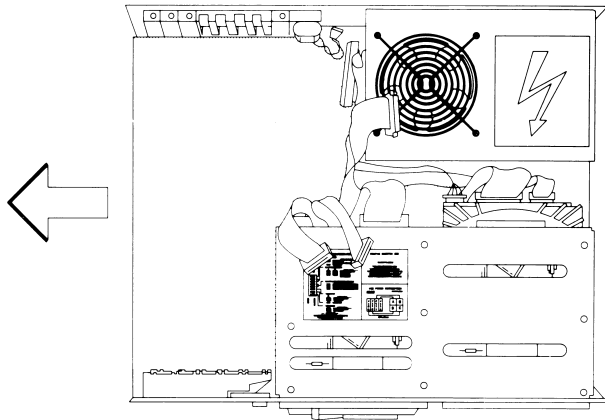

Figure 7-36. Removing the System Board.
7. Carefully remove the system board from the chassis (Figure 7-36).